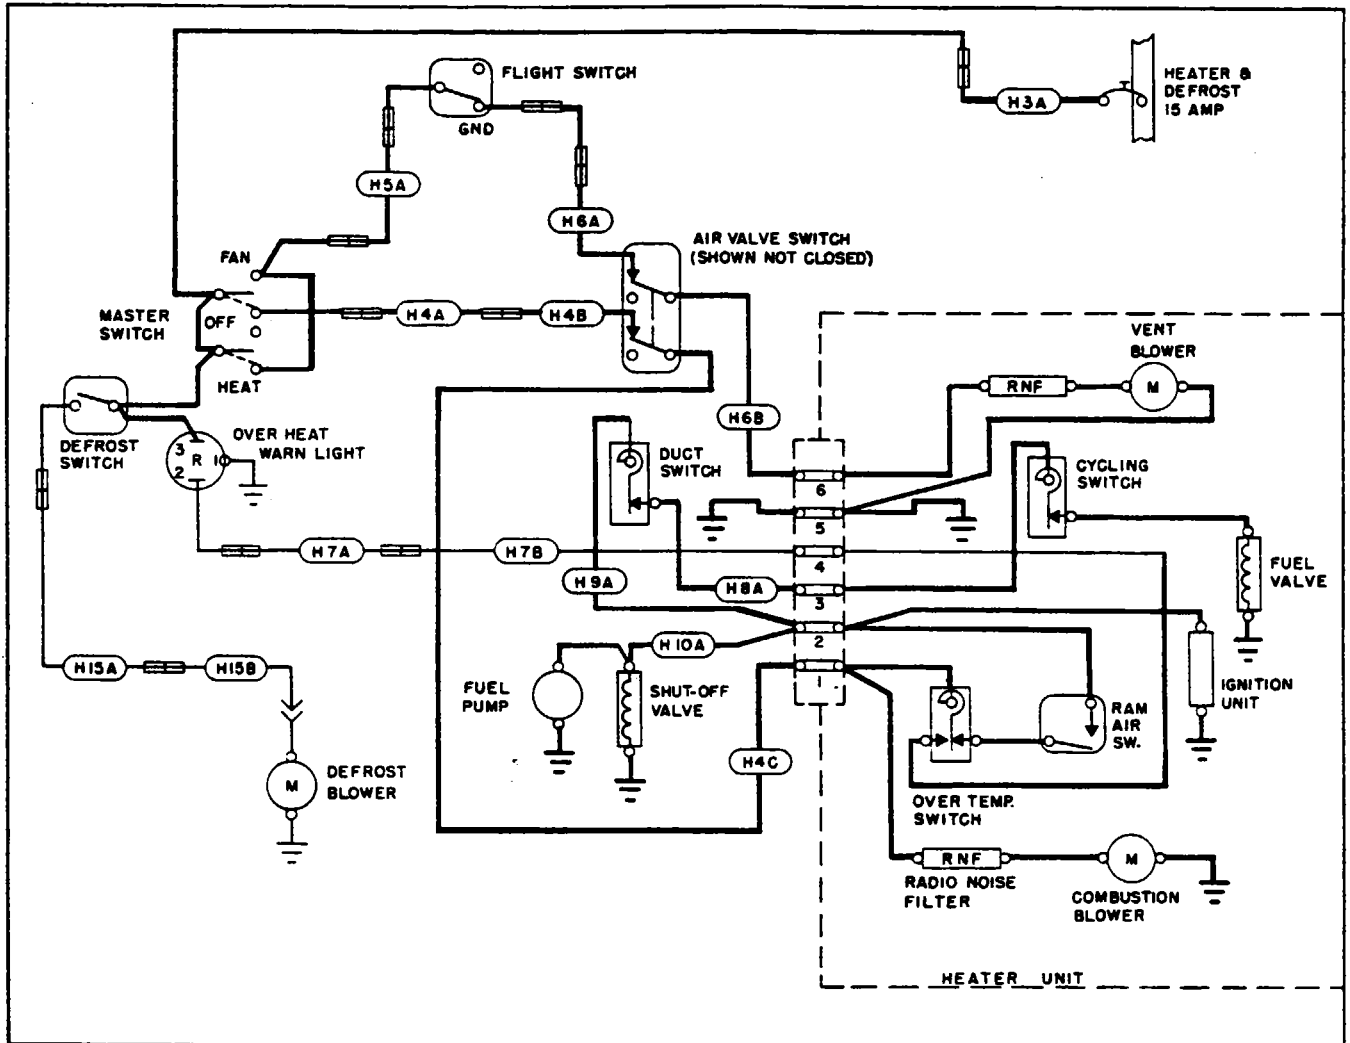

Figure 13-9. Starting Power Circuit
a. With the HEATER SWITCH in the HEAT position, voltage should be present at the following locations: (Refer to Figure 13-9.)